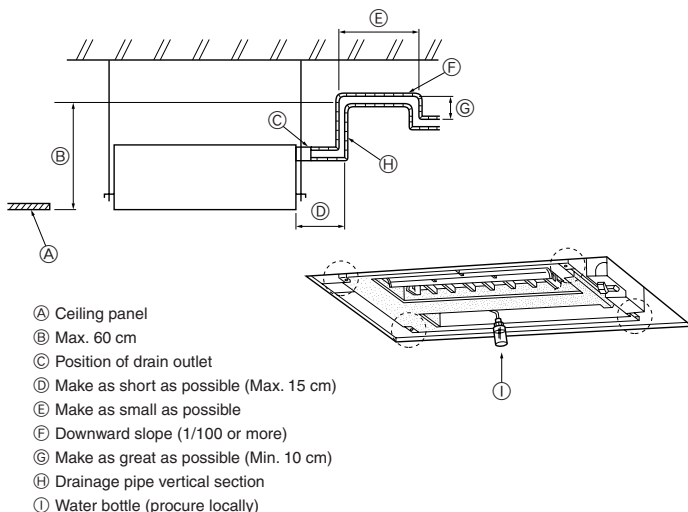

Fig. 4-3
4. Stop the test run. (Don't forget to turn off the power.) (Fig. 4-3)